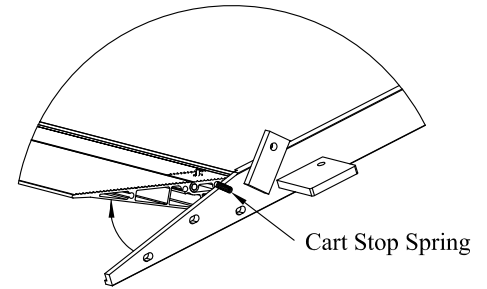

Figure 3: Taper rotated up.
3. **Rotate** the taper section up (Figure 3). The cart stop springs are compressed in the ends of the taper section and may come out during this step.
4. **Remove** cart stop springs from taper section (Figure 3).